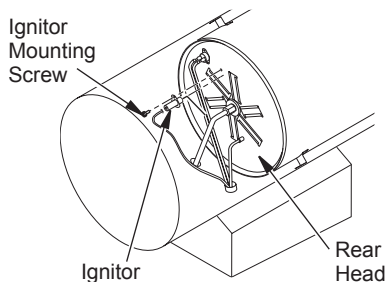

Figure 11 - Removing Ignitor Mounting Screw and Ignitor
3. Remove ignitor mounting screw from rear head using nut-driver or standard screwdriver (see Figure 11).